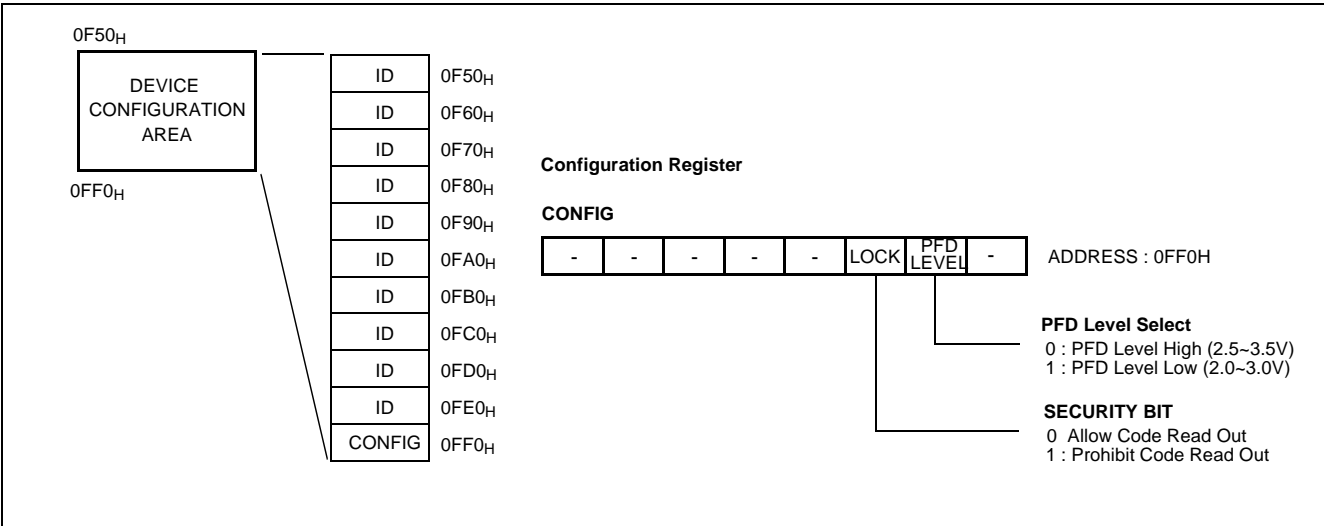

Figure 21-1 Device Configuration Area
**Note:** Power fail detect level is decided by setting the bit PFDLEVEL of CONFIG register (refer to Figure 21-1 ).